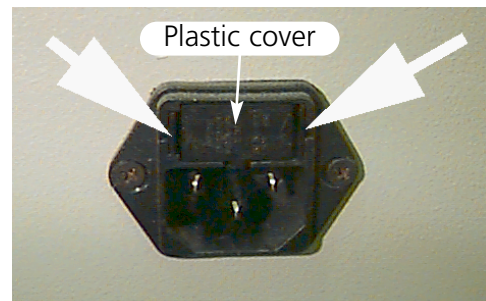

Figure 6-11
2. Directly above where the power cord plugs in is a small plastic cover (see Figure 6-11). Use your fingernails to unclip each side of this cover in the locations shown in Figure 6-11.